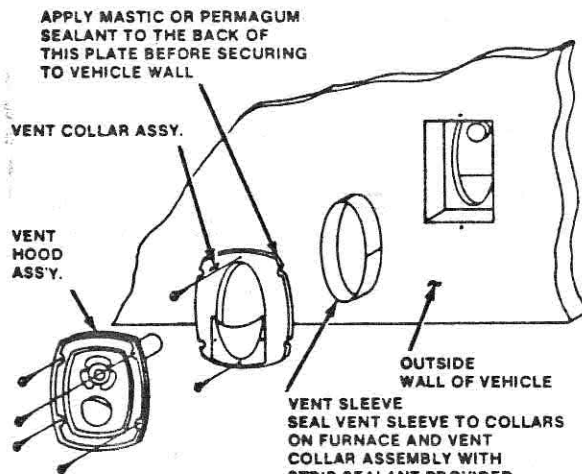

Figure 11
A small flush vent has been developed for these furnaces and can be installed through walls ranging in thickness from 1 inch to 4 inches. See figure 11.
7. Install the vent terminal on the outside wall of the vehicle as shown in Figure 11.
10. Install the vent terminal on the outside wall of the vehicle as shown in Figure 11.
5. Install the vent terminal on the outside wall of the vehicle as demonstrated in Figure 11.